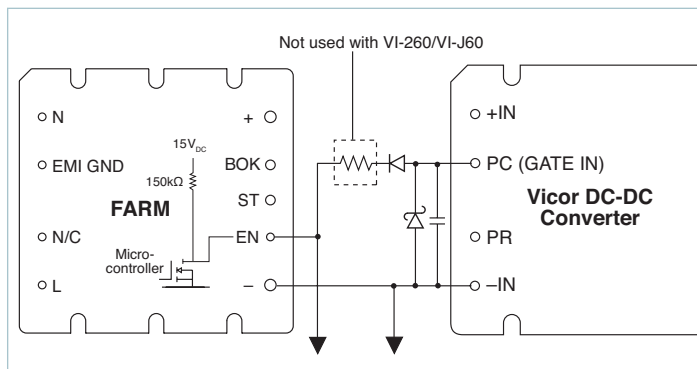

Figure 10 — Enable (EN) function
**Enable (EN) Pin:** (See Figure 10) The Enable pin must be connected to the PC or GATE-IN pin of all converter modules to disable the converters during power up. Otherwise, the converters would attempt to start while the hold-up capacitors were being charged through an unbypassed current limiting thermistor, preventing the bus voltage from reaching the thermistor bypass threshold, thus disabling the power supply. The Enable output (the drain of an N channel MOSFET) is internally pulled up to 15V through a 150kΩ resistor.